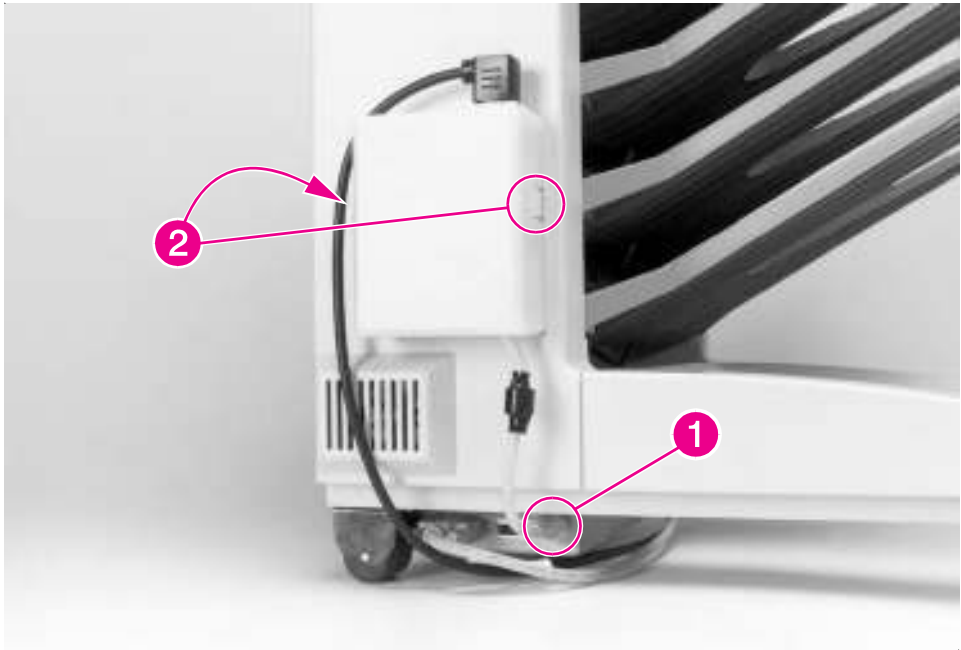

Figure 6-152 8-bin Mailbox Power Supply
- 1 Locate the cable that runs from the 8-bin Mailbox Power Supply down to the 8-bin Mailbox Controller PCA, and disconnect the cable from the Controller PCA (Figure 6-152, callout 1).